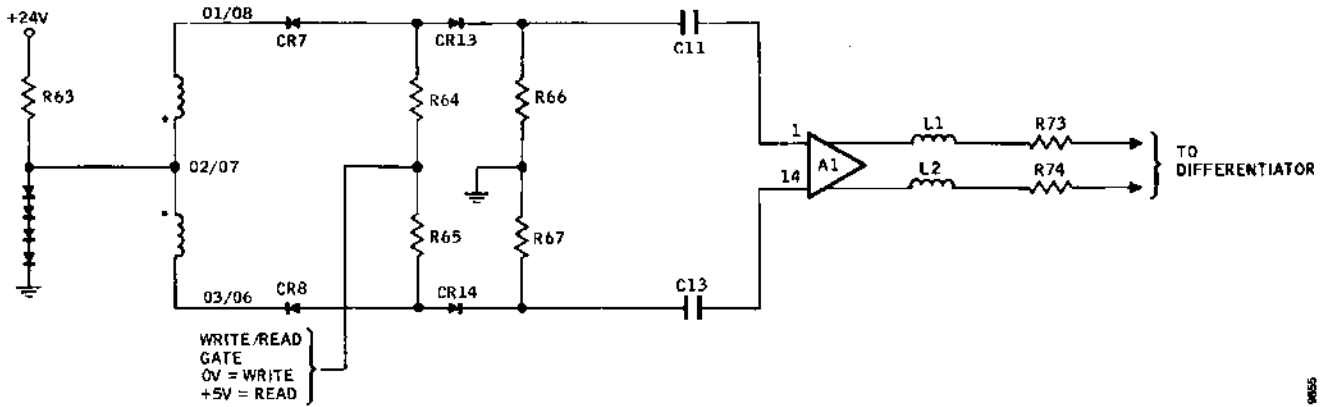

Figure 3-32. Read/Write Matrix Gate for Read
- **Read/Write Matrix – Read Mode** – The read/write matrix is conditioned for a read operation when the junction of R64 and R65 is at +21 volts (see Figure 3-32). This potential forward-biases diodes CR7 and CR8 and allows current to flow through either the upper or lower branch circuit.